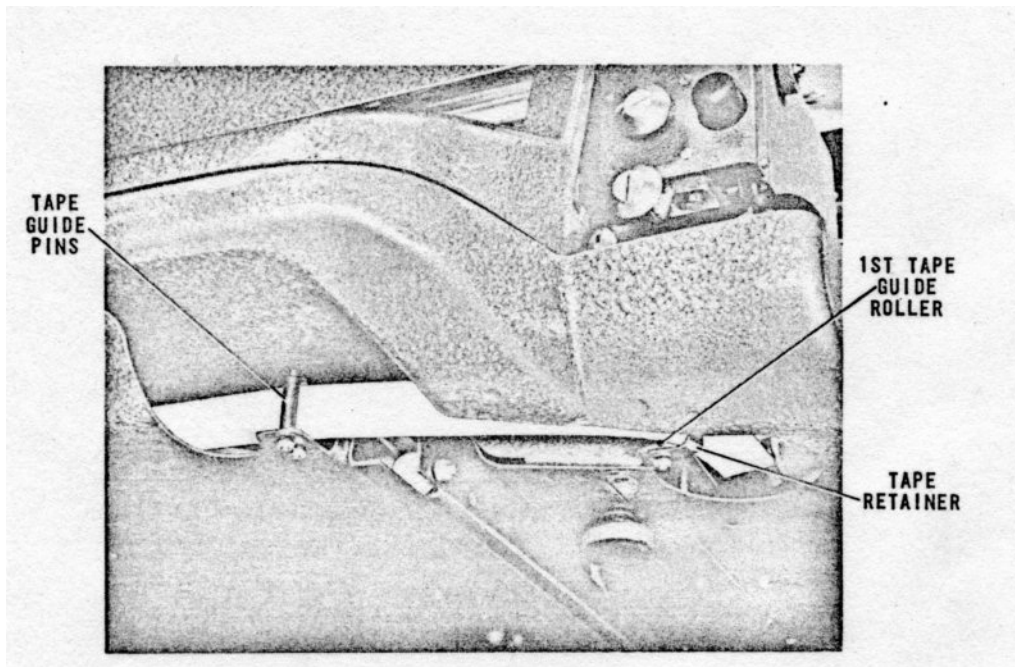

Fig. J.11 TAPE PATH—UNDERSIDE VIEW
- (c) Without twisting, ease the tape (top edge first) between the outside surface of the first tape guide roller, Fig.J.11, and its retainer.